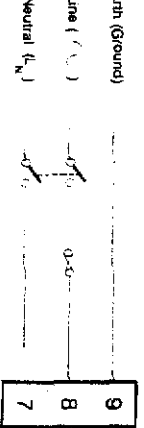

Figure 2-7 Mains (Line) Supply Connections
The controller is supplied to operate on 24V, 10W, 132V or 193 - 264V AC supplies (50/60Hz). Check that the installation mains voltage corresponds to that indicated on the product code label before connecting power to the controller. Local requirements regarding electrical installation should be rigidly observed. Ground terminals must be connected separately and must not be made common to the neutral termination. Consideration should be given to the prevention of access by unauthorised personnel to the power connections. The Ground terminal (Terminal 9) should be connected to a protective ground conductor before any other connections are made; this should remain connected at all times. Power should be connected via a two-pole switch and a fuse (1A for 110V - 132V and 193V - 264V, 5A for 24V operation) as shown in Figure 2-7.
This equipment is designed for installation in an enclosure which provides adequate protection against electric shock. Local requirements regarding electrical installation should be rigidly observed. Ground terminals must be connected separately and must not be made common with the neutral connection. Consideration should be given to the prevention of unauthorised personnel from gaining access to the power terminations. The Ground terminal (9) should be connected to a protective ground conductor before any other connections are made and should remain connected at all times. Power should be connected via a two-pole isolating switch and a 1A (193 - 264V supply), 2A (100 - 132V supply) or 5A (24V supply) fuse, as shown in Figure 2-7.